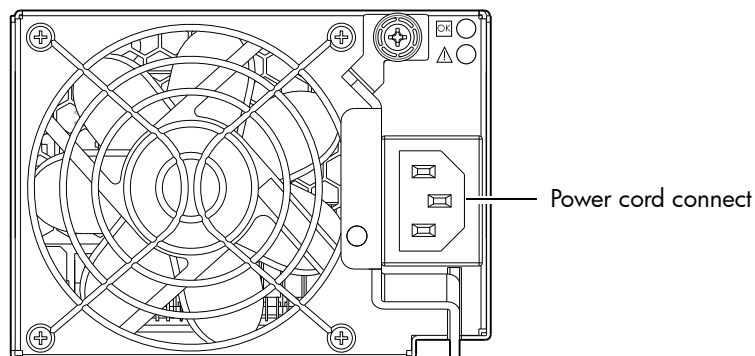
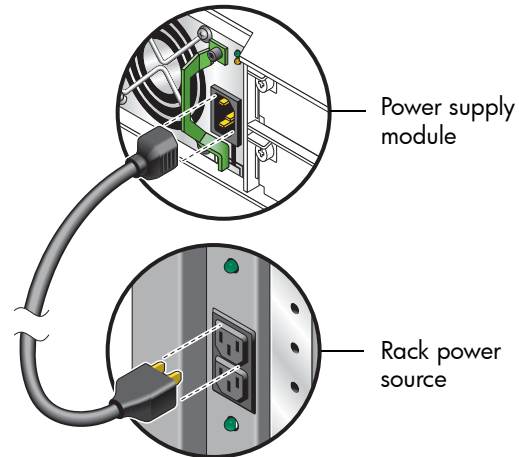

Figure 15 AC PSU
Figure 16 AC power cord
1. Plug the power cord into the power cord connector on the back of the drive enclosure. Plug the other end of the power cord into the rack power source (see Figure 15 and Figure 16). Wait several seconds to allow the disks to spin up.
2. Plug the power cord into the power cord connector on the back of the controller enclosure. Plug the other end of the power cord into the rack power source (see Figure 15 and Figure 16).